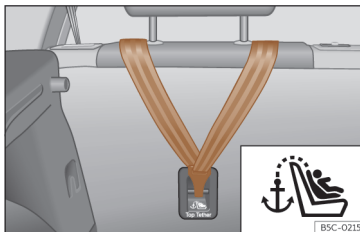
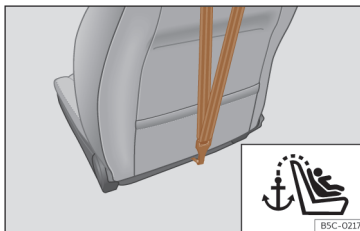

Fig. 39 Rear part of the rear seats: Top Tether belt anchor.
Fig. 40 Rear of front passenger seat backrest: Top Tether belt anchor (not available in all markets/versions).
is located on the rear of the rear seat backrest and of the front passenger seat backrest¹⁾ (identified with the symbol ) and provides better retention >>> **Fig. 39**, >>> **Fig. 40**.
- Slide the belt and secure it properly with the anchor on the rear seat backrest >>> **Fig. 39** , >>> **Fig. 40.**